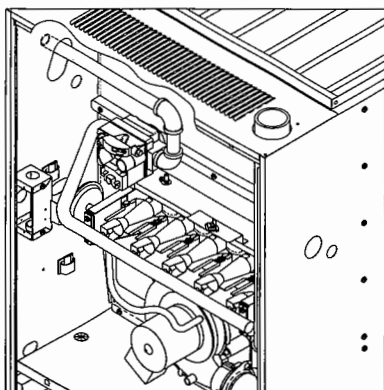

Fig. 7A — Gas inlet from the L.H. side
- Straight pipe to reach exterior of furnace. See Fig. 7A.